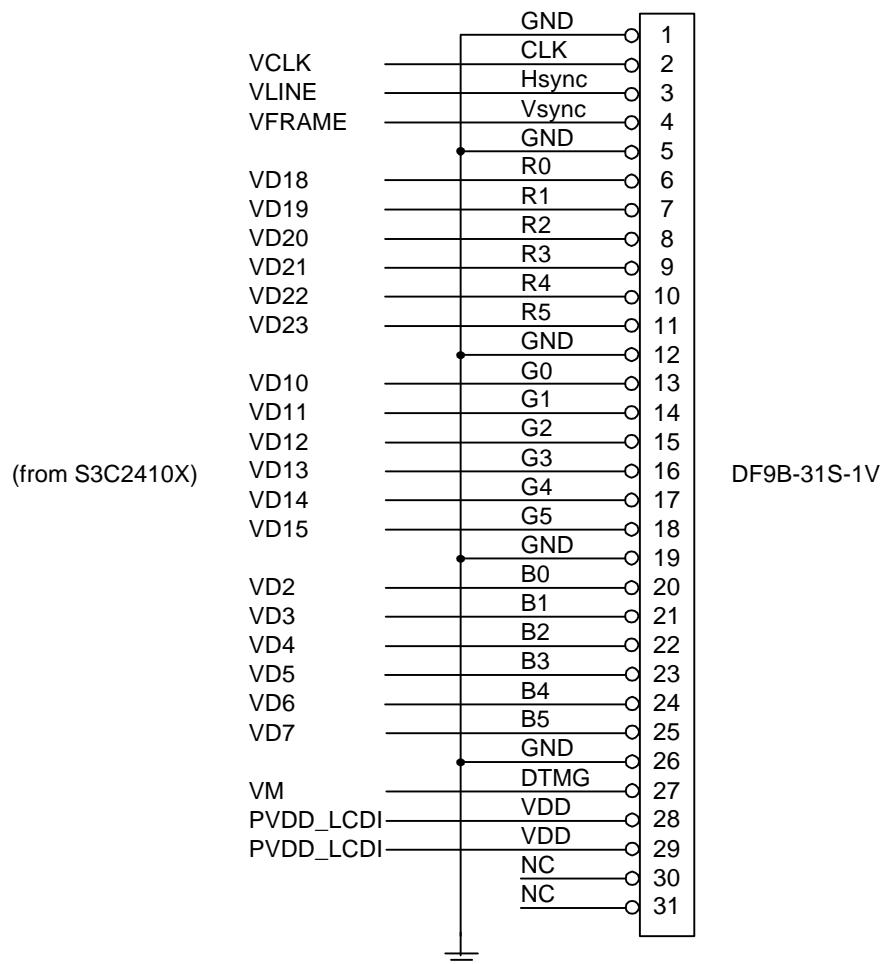

Figure 4-18. LP104V2-W Connection with S3C2410X (LG Philips 10.4" TFT LCD)
- LP104V2-W (262,144 color TFT LCD, 10.4") from LG Philips (refer to Figure 4-18)